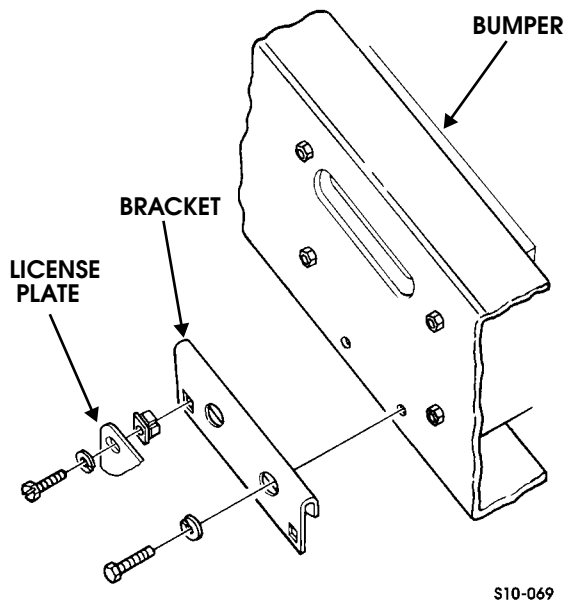

Figure 10-125: Front License Plate Bracket
1. Remove two capscrews, lockwashers, license plate, and two grommets from bracket. Discard lockwashers (Figure 10-125).
1. Install bracket on bumper with two lockwashers and screws (Figure 10-125).